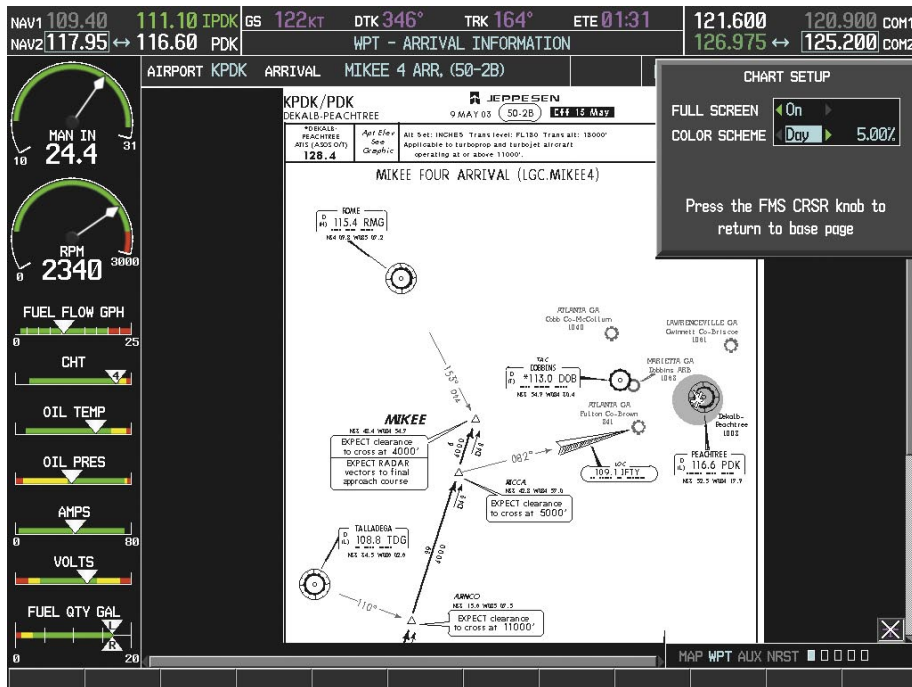

Figure 8-30 Arrival Information Page, Day View
- 3) Turn the large **FMS** Knob to move between the 'FULL SCREEN' and 'COLOR SCHEME' Options (Figure 8-30).